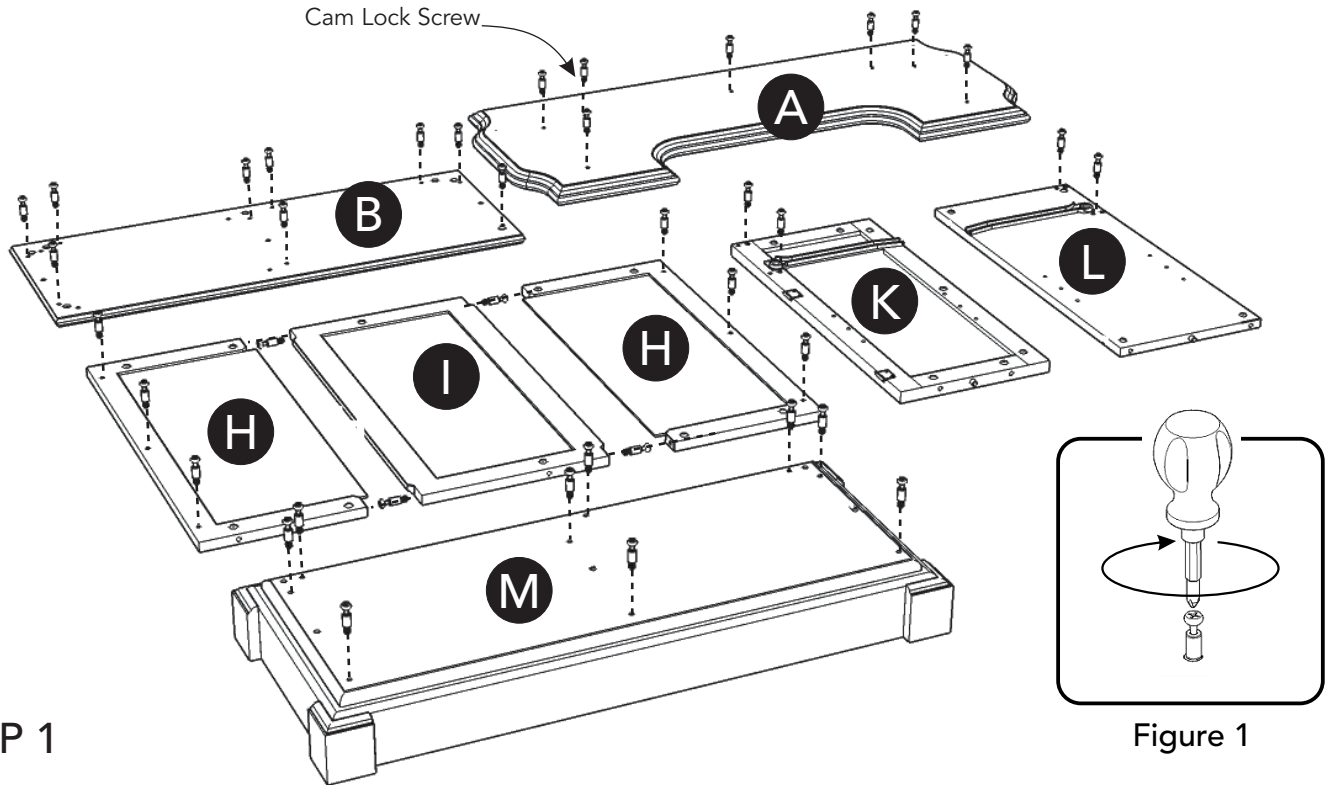

Figure 1
Insert Cam Lock Screws into pre-drilled holes in Top (A), Sub Top (B), Front Panels (H), (I), Side Panel (K), Middle Panel (L) and Base (M), then tighten. (See Figure 1)